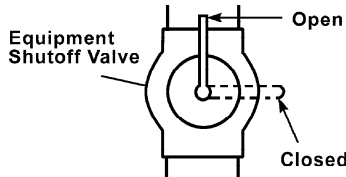

Figure 15 -Equipment Shutoff Valve
1. Close equipment shutoff valve (see Figure 15).
1. Open equipment shutoff valve (see Figure 15).